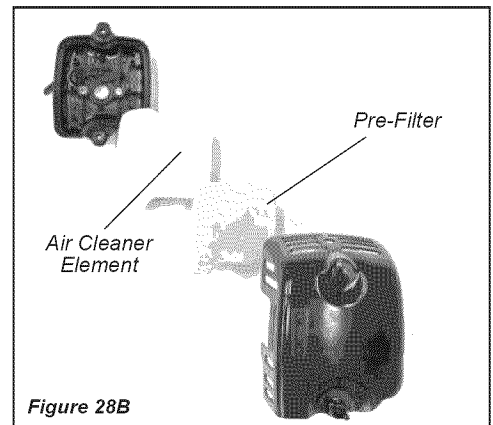

Figure 28B
- Remove and inspect the pre-filter. If the pre-filter is torn or otherwise damaged, replace it with a new one. See Figure 28B.